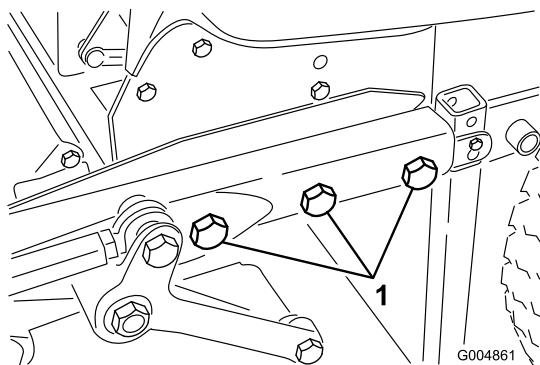

Figure 88
31. Roll the summer deck and frame into position and install the five 3/4 inch bolts, washers and nuts that connect the deck frame to the rear frame (Figure 88). Remove the lift cylinder pins and rear drive tires (if required) to gain access to the bolts on the right hand side. Torque the bolts to 265 foot pounds.